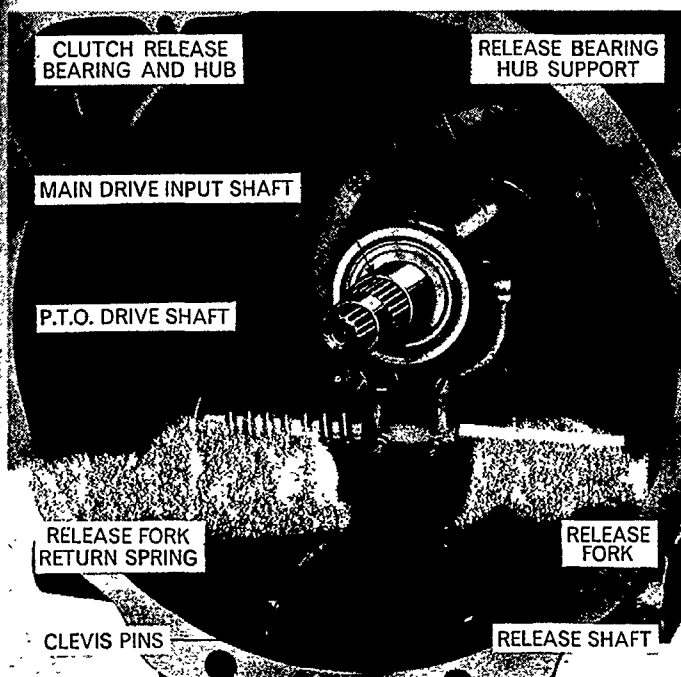

Figure 58
2. Lever the release shaft return spring off the stop inside the transmission case, remove the cotter pins from the two clevis pins securing the clutch release fork to the release shaft. Withdraw the shaft from the case, removing the clutch release fork and return spring, Figure 58.
- to the shaft. Place one end of the return spring on the web of the release fork and lever the other end up and onto the lug cast immediately underneath the right-hand release shaft bushing, Figure 58.